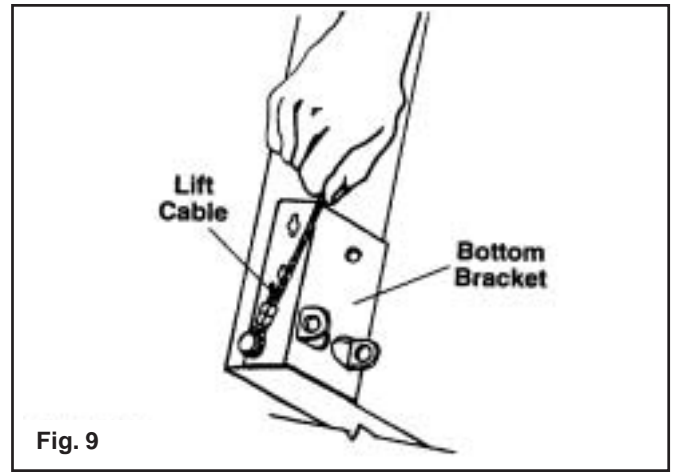

Fig. 9
Step 7: Run looped end of lift cable down the side of the door between the door and track brackets. Attach loop of lift cable to the button on the bottom bracket of the door. (FIG. 9)